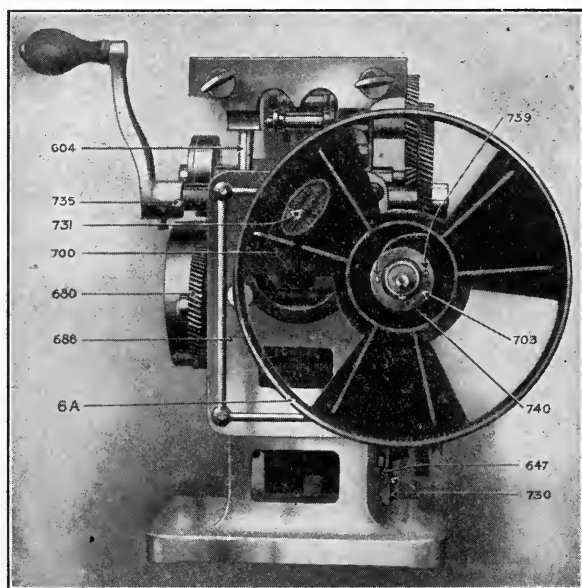

FIG. 220.
audience sees it; that is, a person in the audience sees each second sixteen different pictures standing perfectly still. If the pictures do not stand perfectly still the picture looks streaked. In order to accomplish this a revolving shutter (731), Fig. 220, is used. The blade